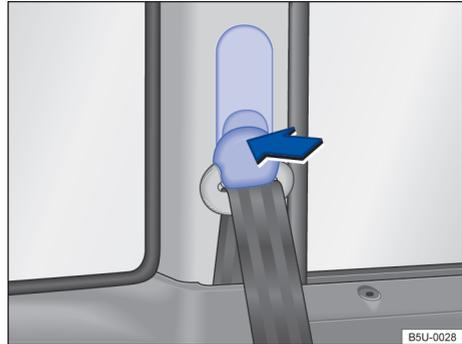

Fig. 31 Next to the seats: seat belt height adjuster.
- Press and hold the shoulder belt guide as indicated by the arrows → **Fig. 31**.